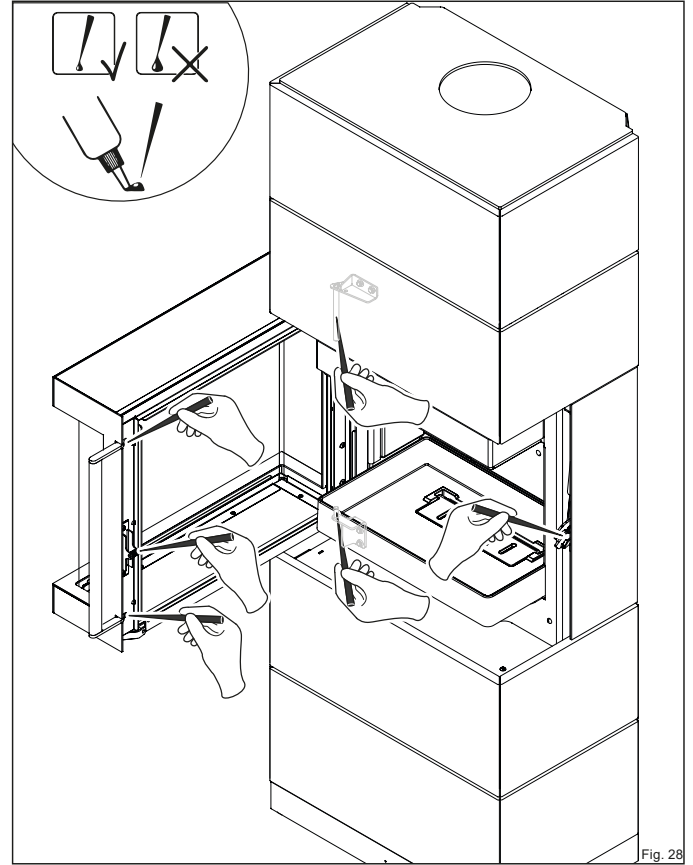

Fig. 28
- ▶ Lubricate the points with the speciality grease from the starter kit (Fig. 28).